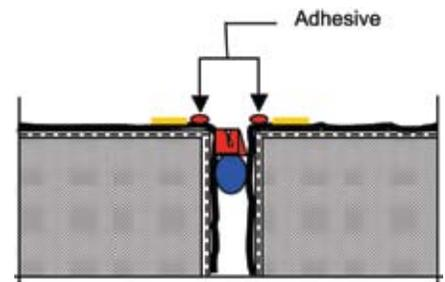

Fig. 3
4. Apply two parallel beads of the sealant manufacturer's adhesive slightly to the inside (joint side) of the masking tape along each side of the joint (Fig. 3).